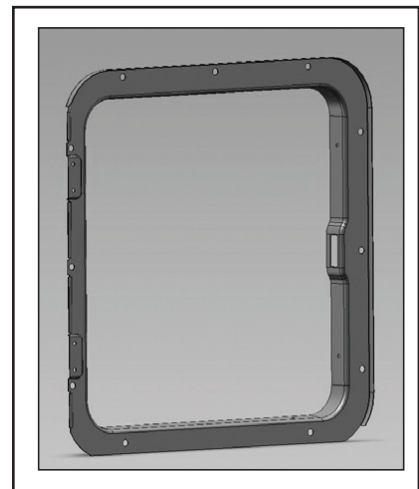

Figure 7
6. Secure water heater housing unit to the vehicle using No. 8 -  $\frac{3}{4}$ " flat head screws through each hole in the door flange (Figure 4 and Figure 7). **Verify that a tight seal exists between the side wall and the flange. If not, repeat above steps.**